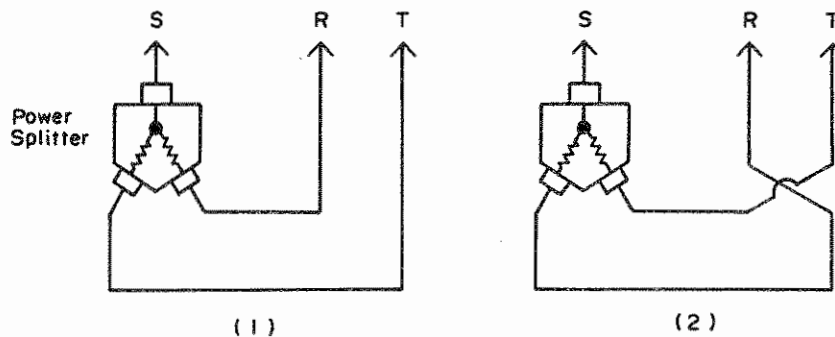

Figure 4-1. Power Splitter Connection
2. Connect the Power Splitter to the Network Analyzer, as shown in Figure 4-1 (1).
4. Swap the cable connection with the Adapter at the Network Analyzer's INPUT port ( do not try to swap the cables at the Power Splitter's OUTPUT ), as shown in Figure 4-1 (2).